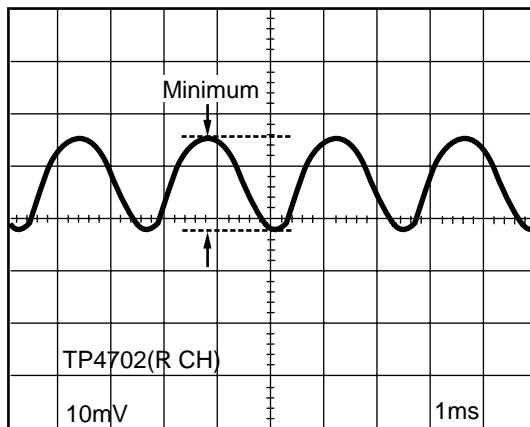

Fig. E5-2
3. Adjust R9001 on the VCR Main C.B.A. so that the signal level is at minimum as shown in Fig. E5-2.